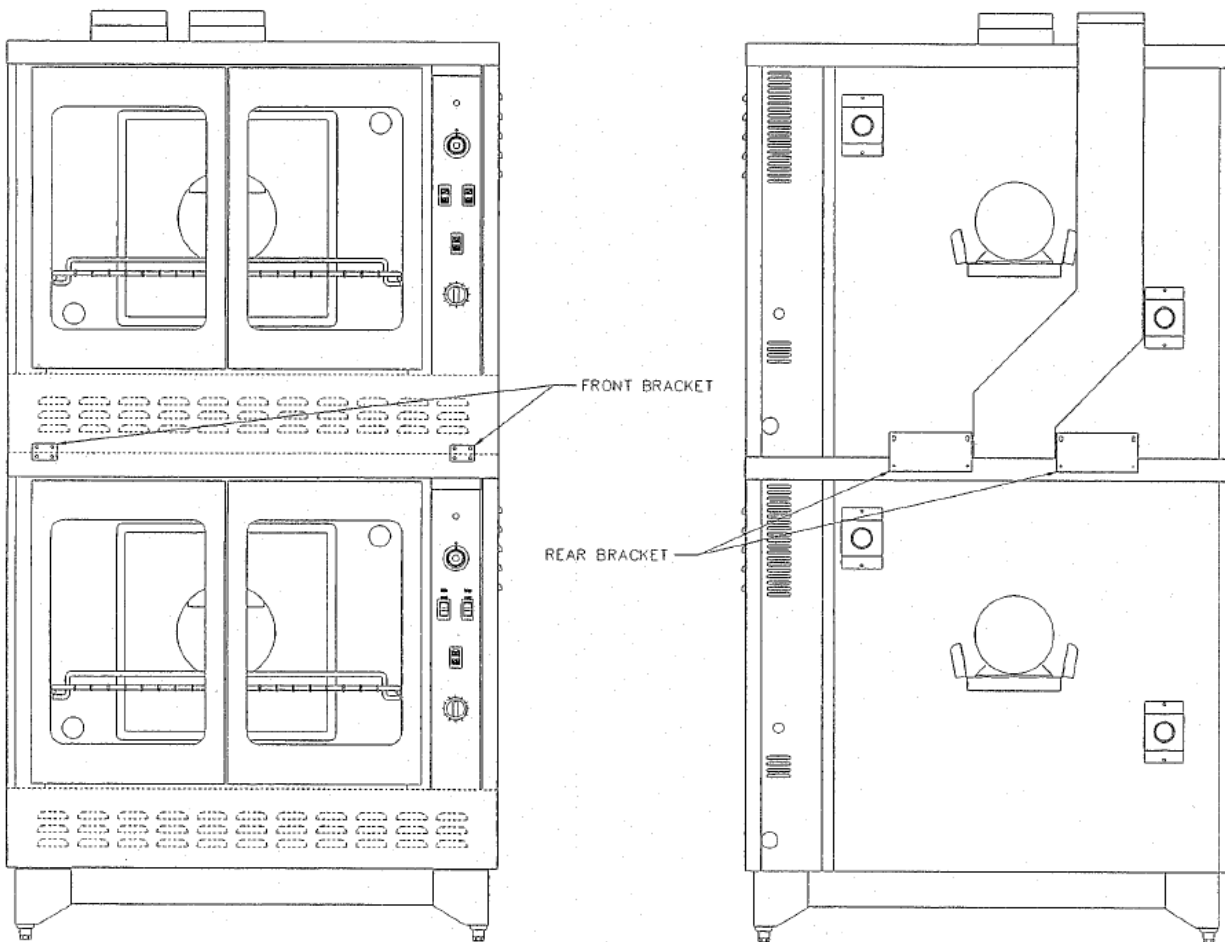

Figure 2
3. Bolts down at rear and front as shown in **FIGURE 2**. Remove top kick plate to access screwing the front bolts.
4. Assemble bottom flue extension as shown in **FIGURE 2**.